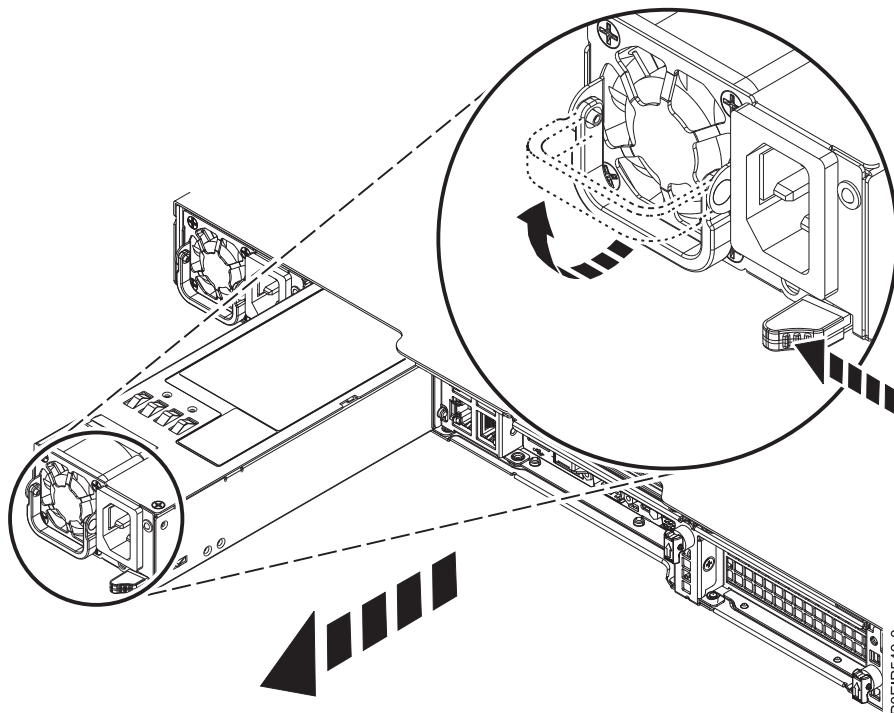

Figure 26. Removing a power supply from the system
- a. To unseat the power supply from its position in the system, push the locking-tab to the left as shown in Figure 26.